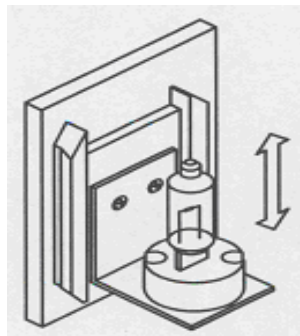

Figure 6-5 Change a New Bulb
3. Take off the damaged bulb and install a new one. Refer to Figure 6-5.